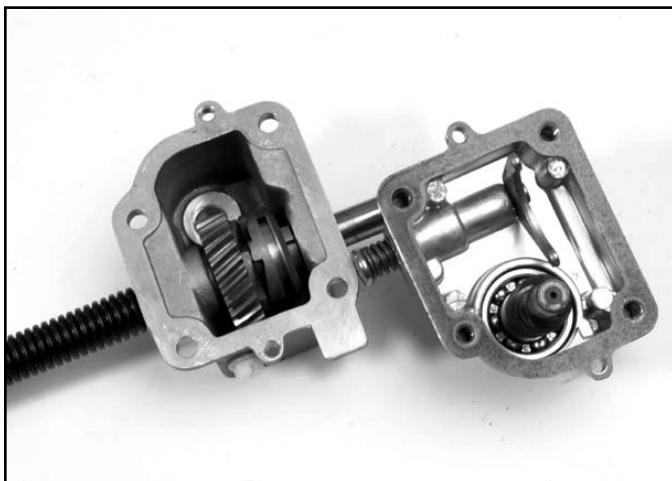

Fig 011
4. Remove the transmission cover. The shift fork may come with the cover or may fall into the bottom of the case (Fig. 011).